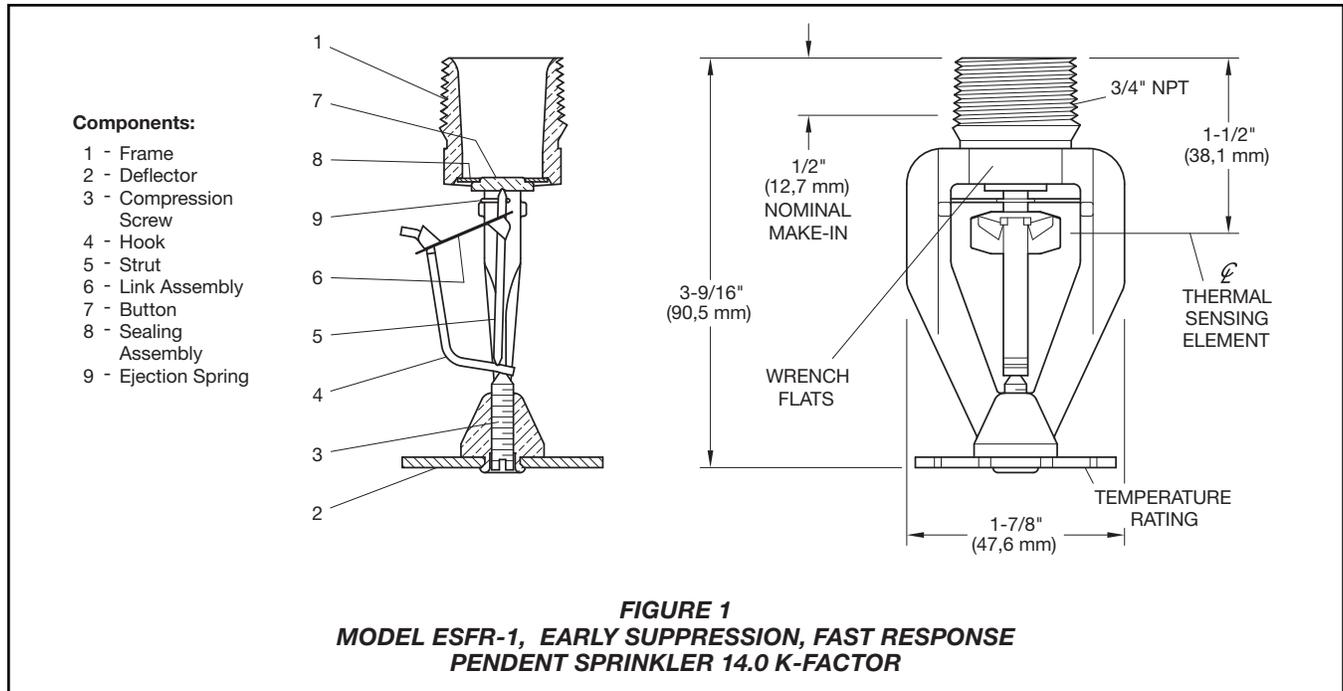

FIGURE 1
3. Wrench-tighten the Model ESFR-1 Sprinkler using only the W-Type 2 Sprinkler Wrench (Figure 2) and by fully engaging (seating) the wrench on the sprinkler wrench flats (Figure 1).
4. After installation, inspect the Link Assembly of each Model ESFR-1 Sprinkler for damage. In particular, verify that the Link Assembly and Hook are positioned as illustrated in Figure 1, and that the Link Assembly is not bent, creased, or forced out of normal position in any way. Replace damaged sprinklers.